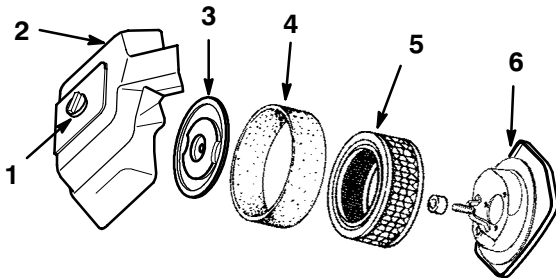

Figure 17
3. Clean around the air cleaner to prevent dirt from getting into the engine and causing damage. Remove the wing nut and air cleaner cover (Fig. 17).
4. Unscrew the nut and remove the cover, foam element and paper element (Fig. 17).
5. Carefully slide the foam element off the paper element (Fig. 17).
1. Carefully slide the foam element onto the paper air cleaner element (Fig. 17).
2. Place the air cleaner assembly into air cleaner base. Slide cover onto rod and secure with nut (Fig. 17).
3. Install the air cleaner cover and secure with wing nut (Fig. 17).